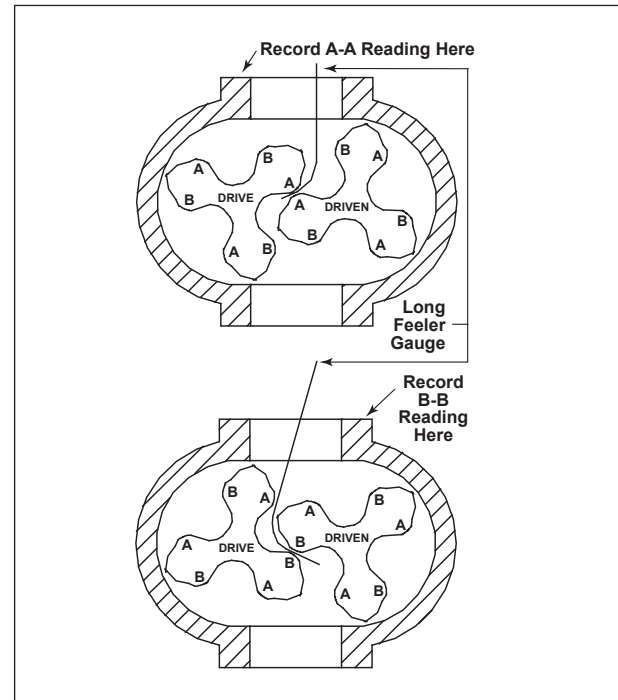

Figure 6-4 – Checking Rotor Interlobe Clearance
9. Check all clearances and set timing. **See Figure 6-4 on page 21** to set Interlobe clearances.